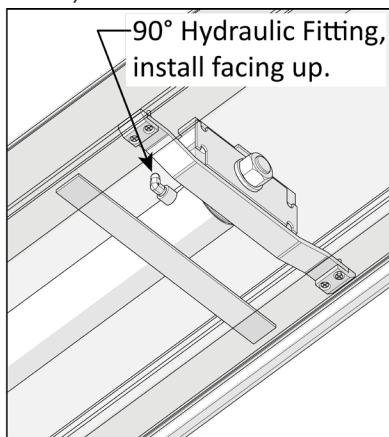

Fig 11.4
3. Install the 90-degree Hydraulic Fitting in the port at the ram end of the Cylinder. On the pipe thread side of the Fitting it is recommended to use Teflon Tape or pipe sealer. **DO NOT USE TEFLON TAPE on the JIC flared end.** Apply Sealer between +46.5°F to +70°F (+8°C to 21°C) (See Fig. 11.4 )